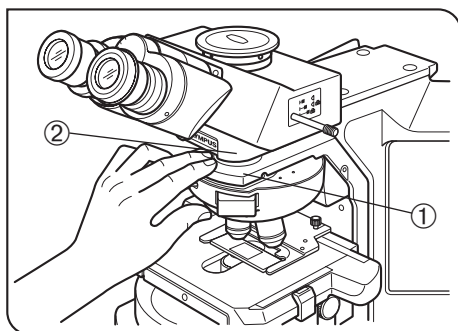

Fig. 1
(Fig. 1)
2. Be careful not to have your finger or hand caught by the space between the revolving nosepiece arm ① and observation tube mount ② (Fig. 1).